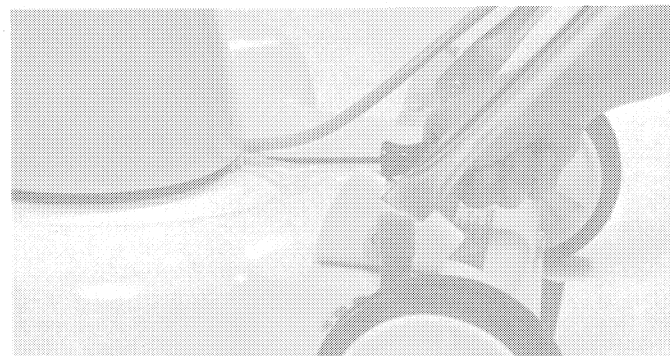

FIGURE 18
2. Remove the motor cover as follows: (a) Loosen the mounting screw at rear of the motor (Figure 18). (b) Carefully push in on the forward cover locating tab (Figure 19). (c) Tilt cover forward (toward tabs) and remaining tab will come free as cover is lifted off.